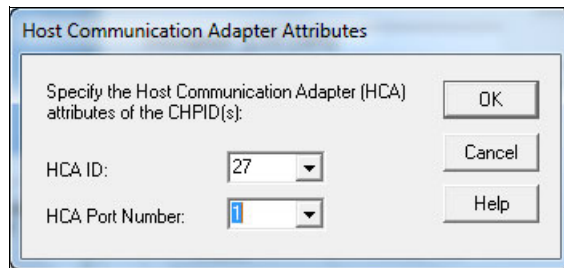

Figure 5-25 HCM - Specify HCA Attributes: defining CS5 HCA attributes
6. Enter the following values in the Host Communication Adapter Attributes window (Figure 5-25), and then click **OK**.